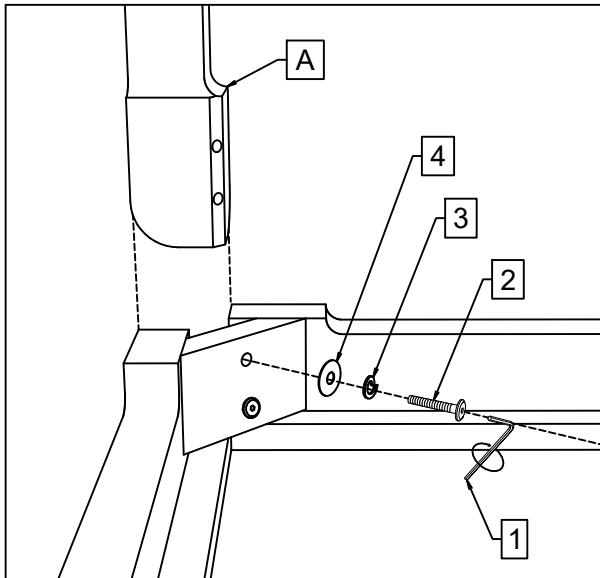

FIG. 2
3. PLACE THE BOLTS (2) USING LOCK WASHERS (3), AND WASHERS (4) THROUGH THE HOLES IN THE LEGS AND THE BASE AND THEN TIGHTEN STRONGLY WITH THE ALLEN WRENCH, AS SHOWN IN FIG. 2.